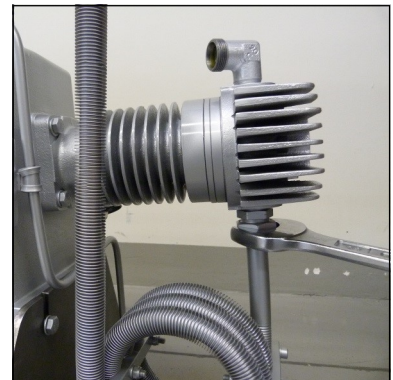

Fig. 4 - Loosen pipe connections
- Loosen pipe connections of 2nd cooling pipe (Fig. 4).